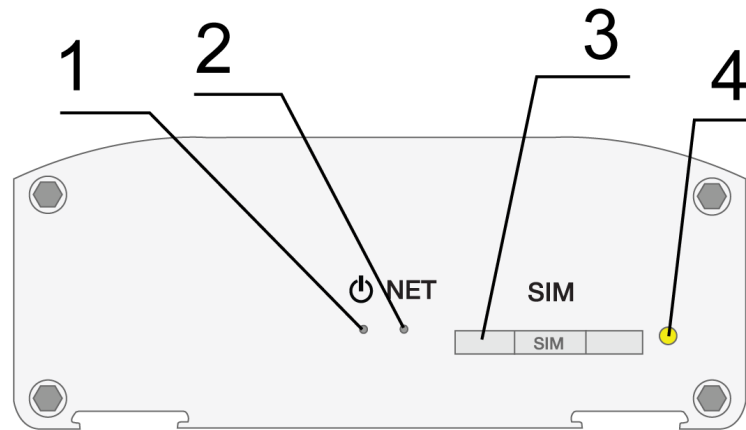
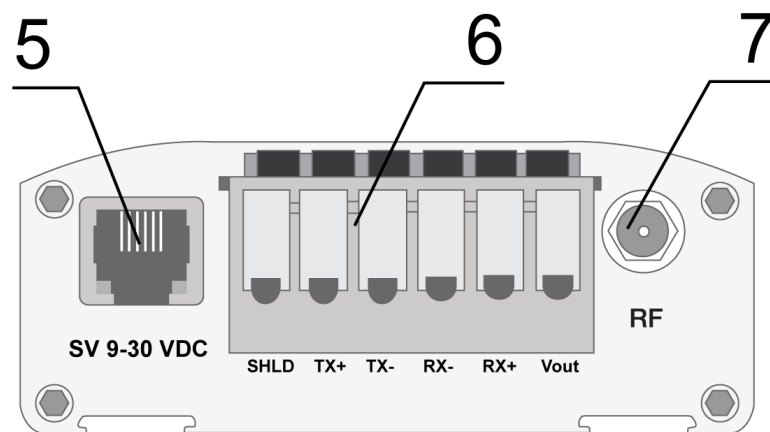

Fig. 2.4.1. Front view
Fig. 2.4.2. Back view
MC52i-422GI modem is a compact device in an aluminum case. Its appearance is displayed on Fig. 2.4.1 and Fig. 2.4.2.
The numbers on Fig. 2.4.1 and Fig. 2.4.2 stand for:
- Eject the SIM holder by pressing the SIM card holder ejector button (Fig. 2.4.1)
Connect the GSM antenna and the RS422 commuting cable. Power the modem through the power connector (Fig. 2.4.2). The frequent blinking of the green LED indicates that the modem is turned on (Table 2.6.1). Remove the PIN code of the SIM card to complete automatic online registration. After the registration is complete the modem goes into the working mode and green LED blinks less frequently.